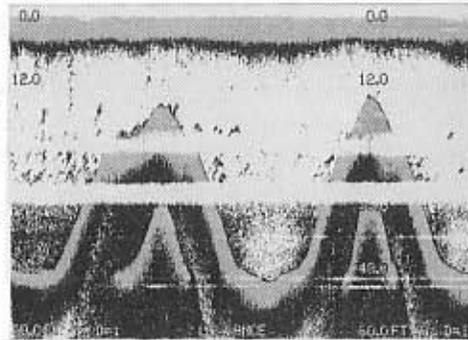

FIGURE 32
- After installing, if the stylus won't print all the way down the paper as shown in Figure 32, bend the right leg down so that more pressure is exerted against the stainless steel plate. If it still does not print all the way, bend the left leg down more, but not so far that it digs into the paper.